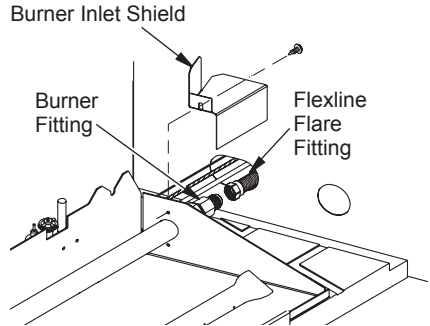

Figure 4 - Disconnecting Gas Flex Line Fitting
4. Remove top screw on burner inlet shield. Remove burner inlet shield to expose burner and flex line fittings (see Figure 4).
5. Disconnect the 3/8" flare fitting on flex line using a 3/4" open end wrench on both the burner fitting and flare fitting (see Figure 4).
9. Reattach burner inlet shield with screw in top hole of burner bracket (see Figure 4, page 2).